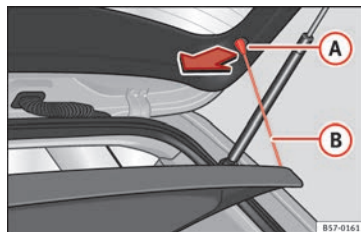

Fig. 159 In the luggage compartment: removing and installing the rear shelf.
- Detach the cord loops » Fig. 159 (B) from their hooks (A).
- Hook the loops » Fig. 159 (B) to the rear lid.